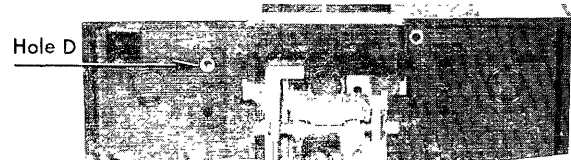

Figure 4
For Type TJ — Figure 4
1. Using hole D, Figure 4, as a pilot, drill a .187 dia. hole .327 (21/64) deep.